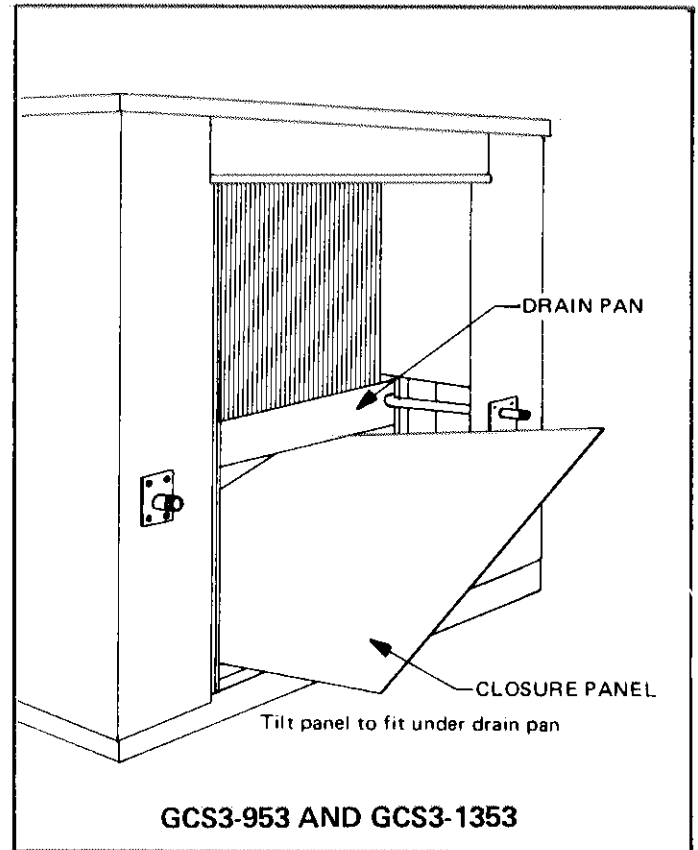

FIGURE 4
- 4—953 And 1353 Units Only—Remove closure panel and bottom filler piece from end of unit. Install closure panel through duct opening in end of unit as illustrated in Figure 4. Place panel in bottom opening and secure with sheet metal screws. Replace bottom filler piece.